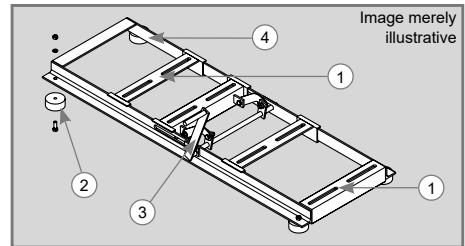

Figure 1
After that, fix the rubber cushions (2) as shown in the Figure 1. Finally, place the belts which will have to be stretched with the stretcher (3) located at the base (4).